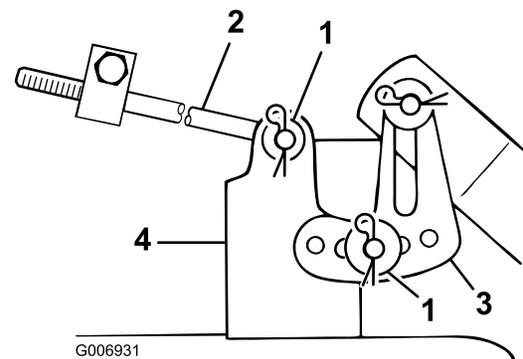

Figure 60
7. Remove the hairpin cotter and washer from the leveling bracket (Figure 60).
8. Position the leveling bracket in a different hole and install the washer and hairpin cotter (Figure 60).